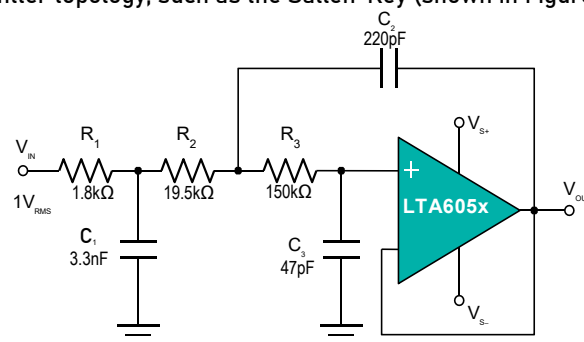

Figure 4. Configured as a Three-Pole, 20-kHz, Sallen-Key Filter
3. using a non-inverting filter topology, such as the Sallen-Key (shown in Figure 4).